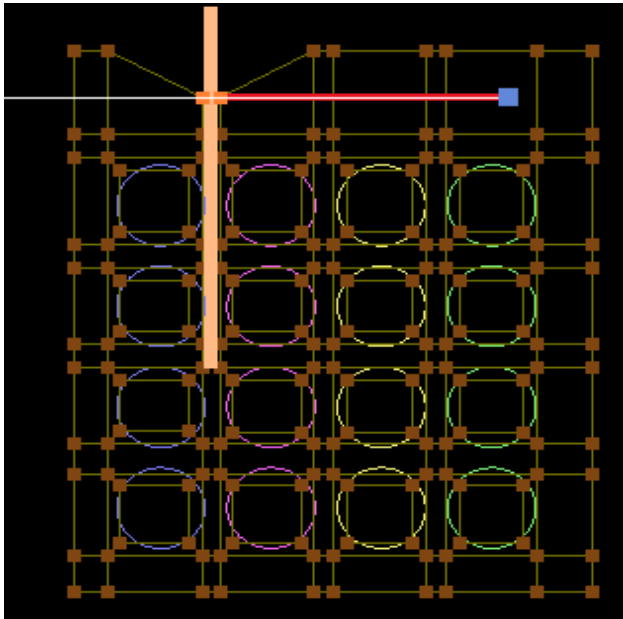

Figure 30.3
- Click on  the button in the topo sub-comamnd panel and move the cut-plane slightly lower as shown in figure 30.3.